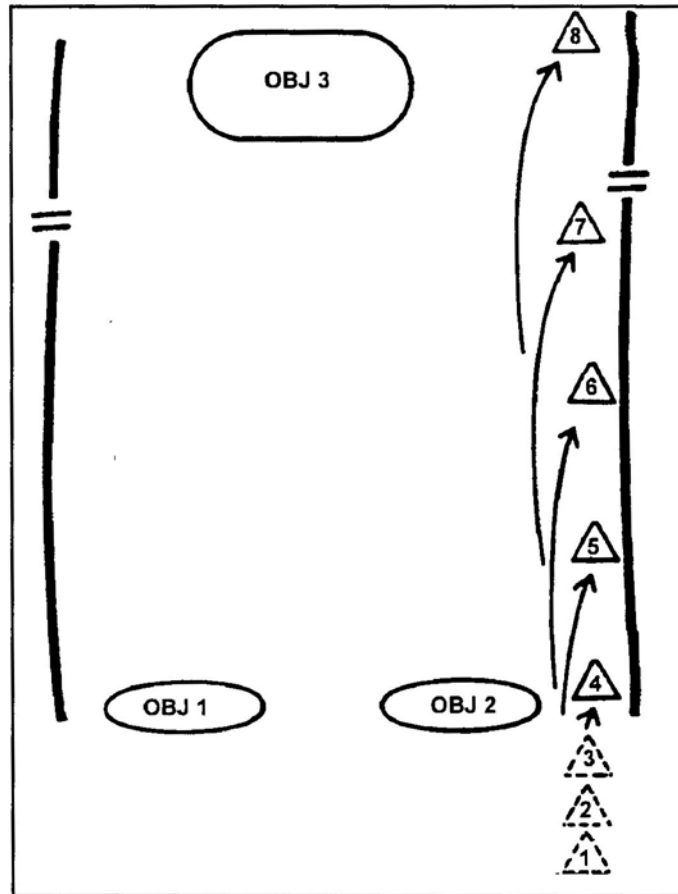

Figure 2. Leapfrog technique.
- a. During a slow-moving attack, the platoon leader will have to displace certain squads in order to keep abreast of the main thrust of the attack. This can be accomplished by the leapfrog technique. For example, in Figure 2, the platoon has already occupied OPs 1, 2, 3, and 4. The main thrust of the attacking force has already seized Objectives 1 and 2 and is beginning its attack on Objective 3. Because the attack is rather slow, the platoon leader displaces the squad at OP 1 and has it move to and occupy OP 5, thus giving the main body continuous flank security. Once OP 5 is occupied, the squad at OP 2 is displaced and occupies OP 6. The squads continue to leapfrog this way, keeping abreast of the attacking force, until Objective 3 is reached. This technique, although time-consuming and dependent on trafficability, affords the commander three permanent OPs constantly watching his flank and no more than one in motion.